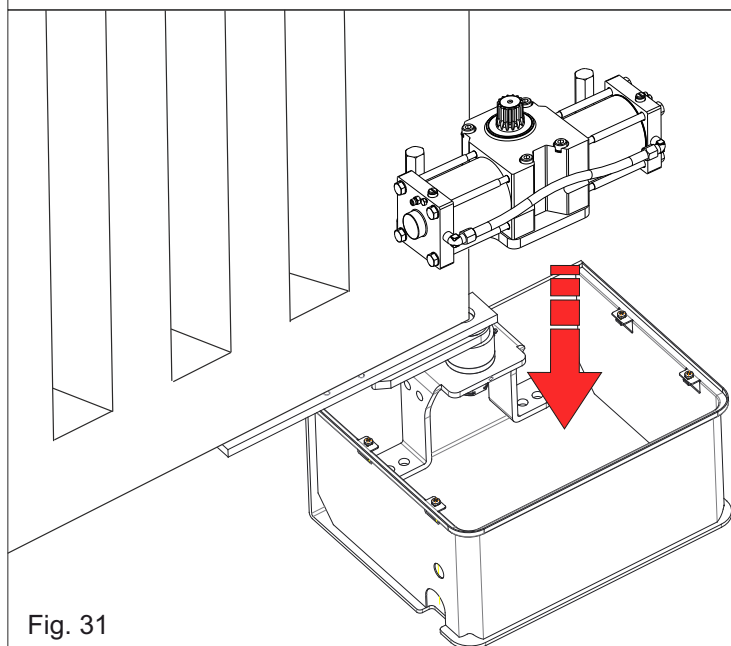

Fig. 31
- 8.1.** Position the operator in correspondence with the carrying box and insert it vertically, making sure it is positioned in the correct direction, as shown in Fig. 31